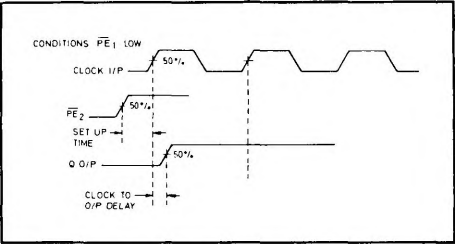

Fig. 3 Set-up timing diagram
5. Set-up time is defined as the minimum time that can elapse between a L $\rightarrow$ H transition of a control input and the next L $\rightarrow$ H clock pulse transition to ensure that the ± 10 mode is forced by that clock pulse (see Fig. 3).